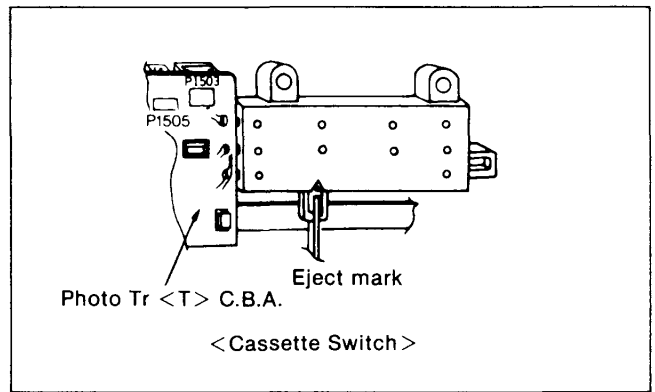

Figure M59
1. Confirm that the Cassette Compartment is aligned properly. In the EJECT position (Cassette Holder up and advanced to the front) the two V-shaped marks on the slide switch should align. The slide switch is located on the right side of the Cassette Assembly towards the rear as shown in Figure M59.